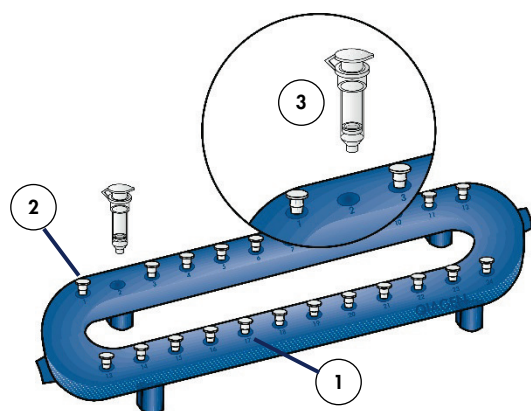

Figure 7. QIAvac 24 Plus. Setting up the QIAvac 24 Plus with QIAprep®, QIAquick, MinElute or RNeasy® Mini Spin Columns:
- 4a. **QIAvac 24 Plus (see Figure 7, page 38):**